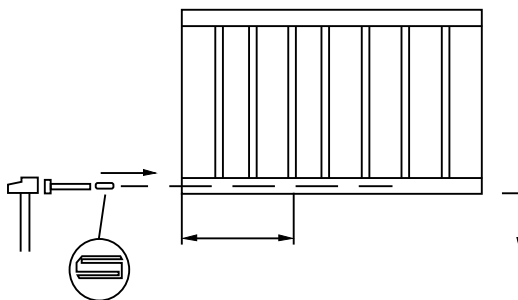

Figure 7
- 6** Alurad radiators allow the making of lower opposite end connection without causing any reduction in yield. To meet this purpose, the “direction plug” and “pusher” shown in Figure 7 will be put into the packing if a request is made for them in the purchase order.